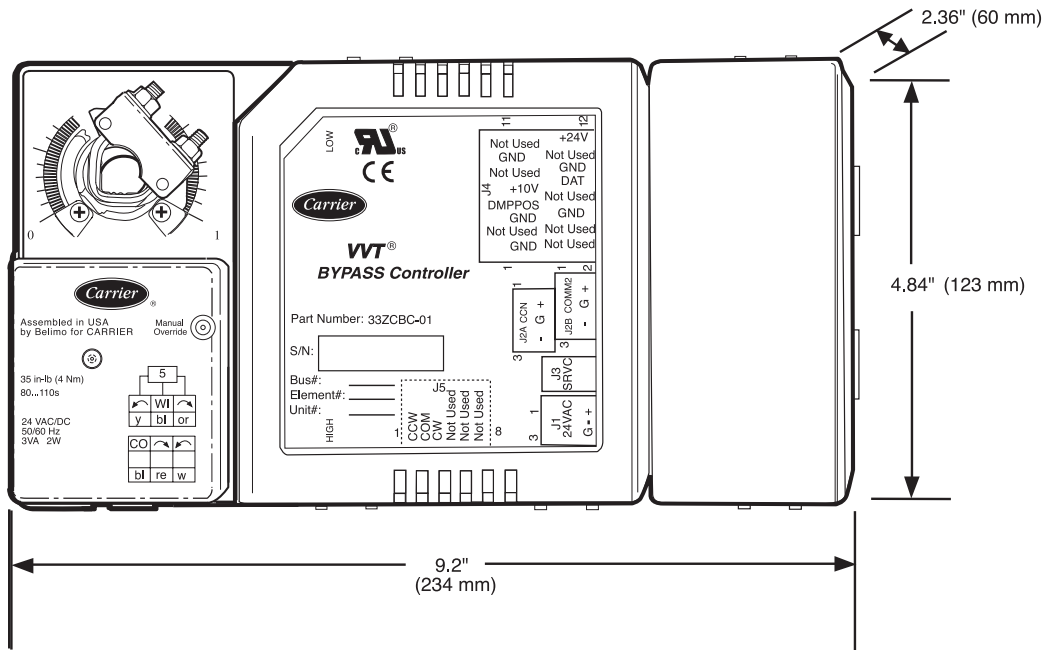

Fig. 1 — Zone Controller/Bypass Controller Dimensions (Bypass Controller Shown)
**Location** — The zone controller or bypass controller must be mounted on the air terminal's damper actuator shaft. For service access, there should be at least 12 in. of clearance between the front of the controller and adjacent surfaces. See Fig. 1 for dimensions.
1. Visually inspect the damper and determine the direction in which the damper shaft moves to open the damper — clockwise (CW) or counterclockwise (CCW).